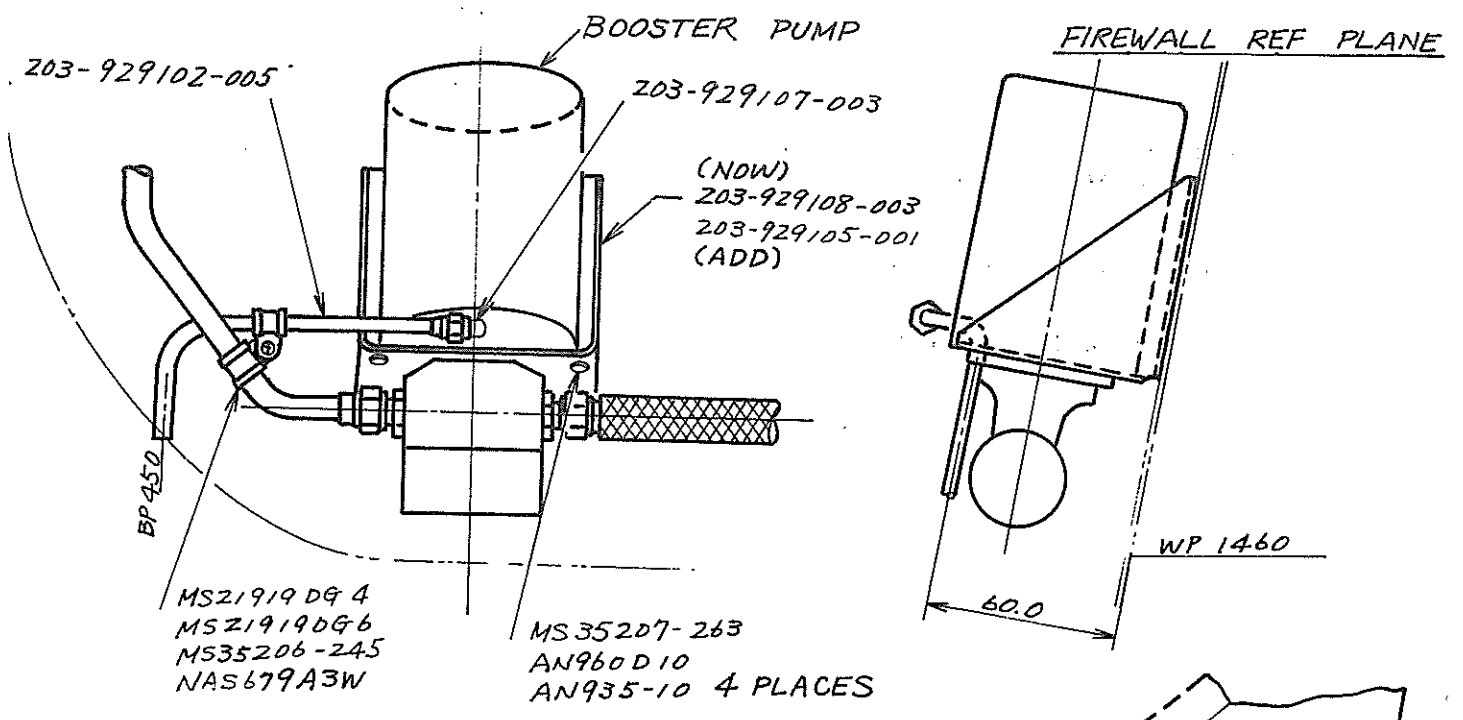

FIG. 1. DRAIN PIPING INSTALLATION
10. Remove drain plug from auxiliary fuel pump. Install elbow, P/N 203-929107-003, and tube assy, P/N 203-929102-5, as illustrated in figure 1.